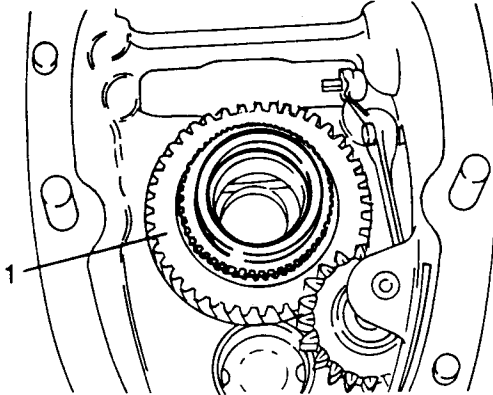

Fig H1.64
- (3) Refer to Fig H1.64. Fit 1st speed gear (1) on the washer, and the friction cone facing inwards.